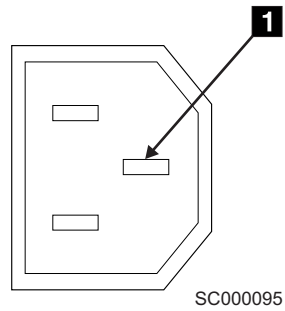

Figure 40. Ground pin (2104 Model TS4)
9. Check for continuity between the frame of the 2104 Model TS4 and the ground pin **1** of the power connector on each fan-and-power-supply assembly. See Figure 40.